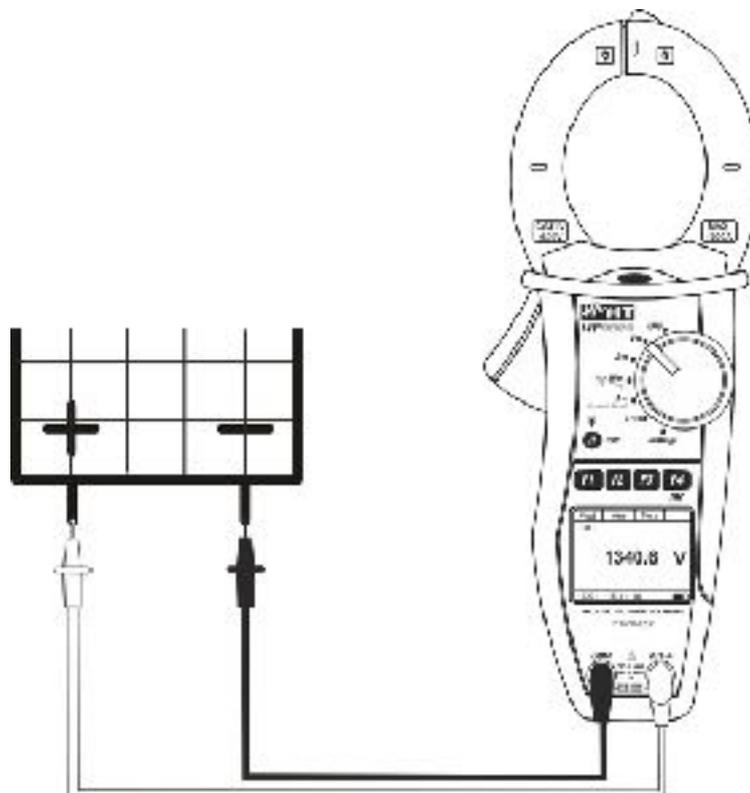

Fig. 5: DC Voltage measurement
- Press the **F4 (OK)** to confirm. The instrument goes into DC voltage measurement mode. The **F2 (Har)** key is not active in this function
4. Connect red cable to input lead **VΩ⁽¹⁾** and black cable to input lead **COM** then position the leads at the desired points of the circuit under test (see Fig. 5)